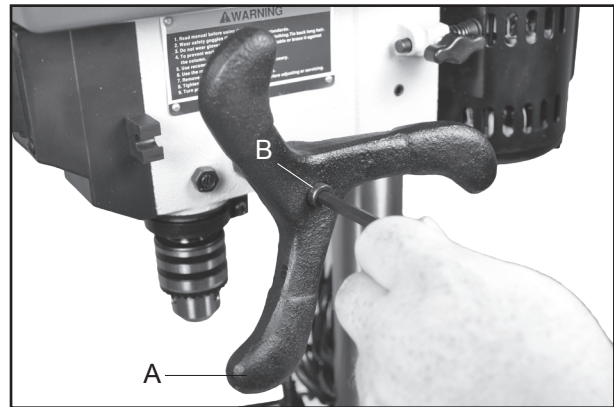

Fig.06
6. The feed handle (A-Fig.06) is secured to the feed shaft with the supplied Allen bolt (B-Fig.06).